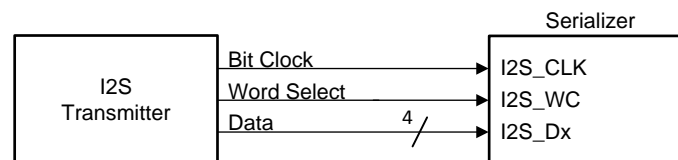
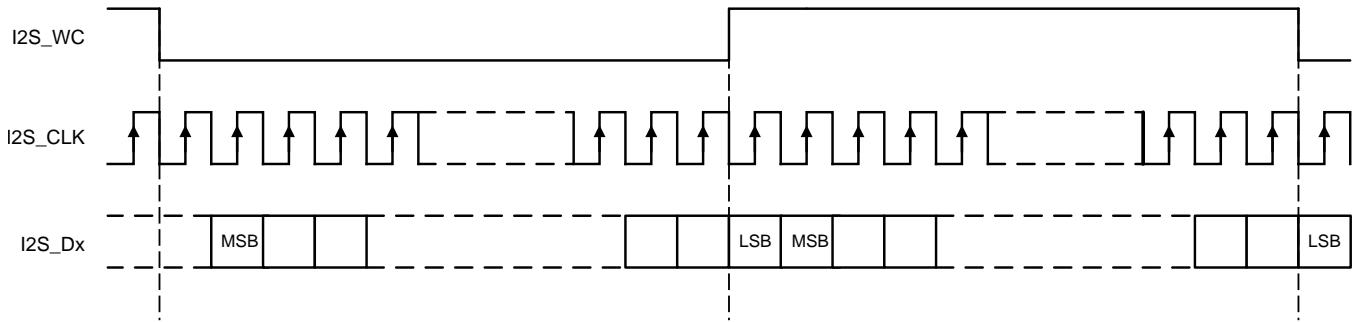

图 15. I2S Connection Diagram
图 16. I2S Frame Timing Diagram
The DS90UH949A-Q1 serializer features six I2S input pins that, when paired with a compatible deserializer, supports 7.1 High-Definition (HD) Surround Sound audio applications. The bit clock (I2S_CLK) supports frequencies between 1 MHz and the lesser of IN_CLK/2 or 13 MHz. Four I²S data inputs transport two channels of I2S-formatted digital audio each, with each channel delineated by the word select (I2S_WC) input. Refer to Figure 15 and Figure 16 for I2S connection diagram and timing information.